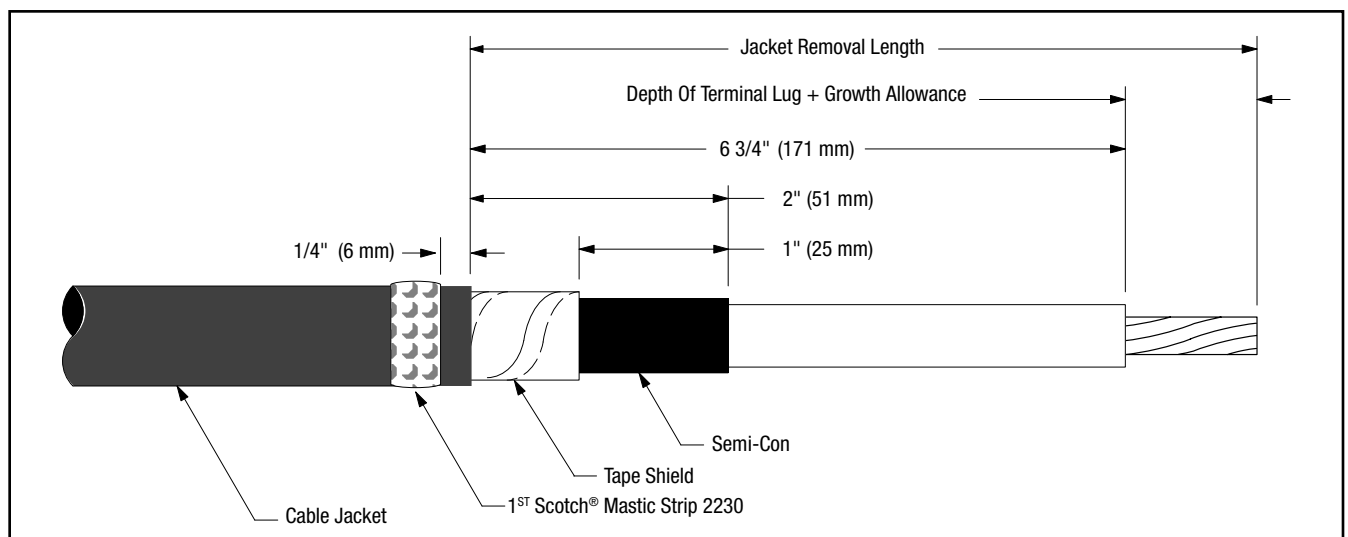

Figure 1
- 2.2 Prepare cable using dimensions shown in *Figure 1*. **BE SURE TO ALLOW FOR DEPTH OF TERMINAL LUG**. If necessary to prevent tape shield from unrolling, hold down edge with a single wrap of 3M™ EMI Copper Foil Shielding Tape 1181.
- 2.3 Select a Scotch® Mastic Sealing Strip 2230 from kit and remove white release liners. Using light tension, apply a **SINGLE WRAP** of mastic around the cable jacket 1/4" (6 mm) from cut edge (Figure 1). Cut off excess.